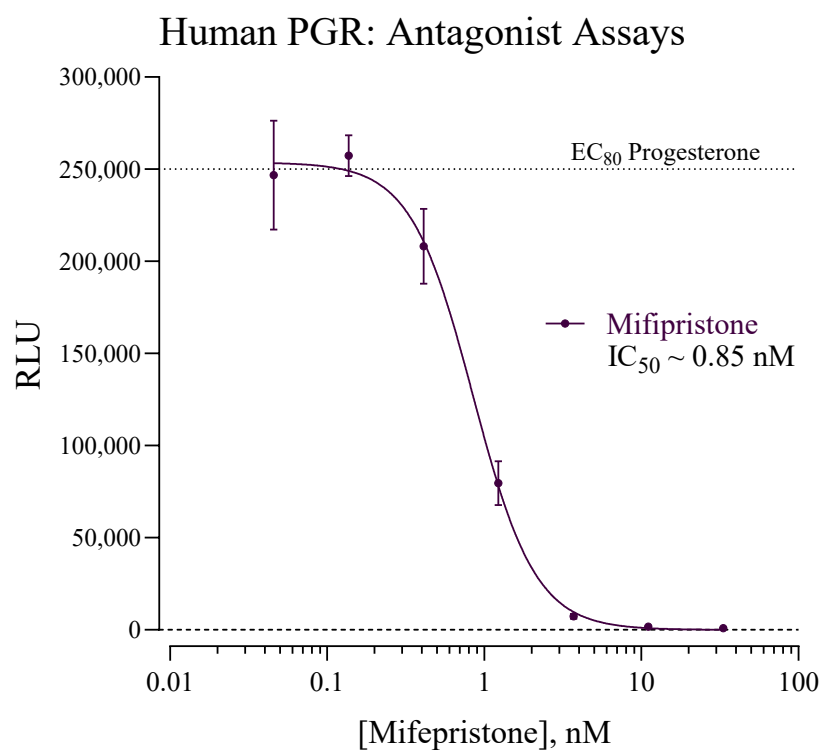

Figure 3. Validation of PGR Antagonist assay.
- *Optional:* antagonist reference compound (e.g., Fig. 3)